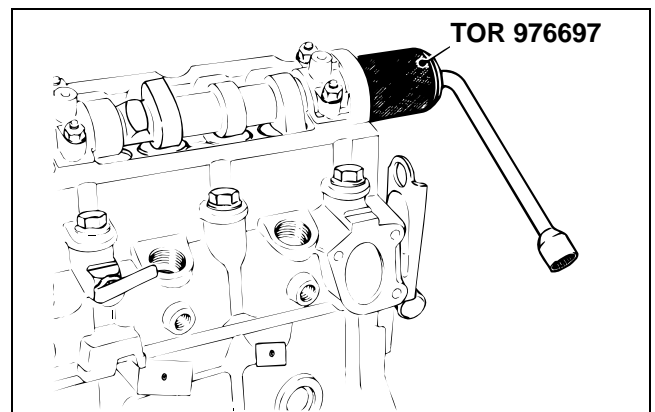

Figure 88
16. Install a new oil seal on tool TOR 976697 on the side where the inner flange is the farthest away (Fig. 88).